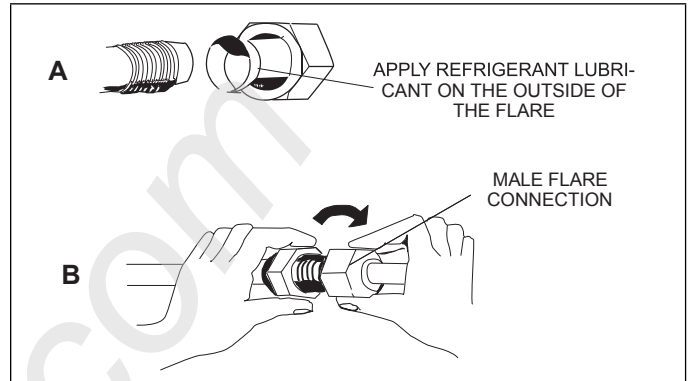

Figure 24. Making Connections (Male to Female Connection)
15. Align the threaded connections with the flared refrigerant lines. Tighten the flare nuts lightly at first to obtain a smooth match as illustrated in "Figure 24. Making Connections (Male to Female Connection)".